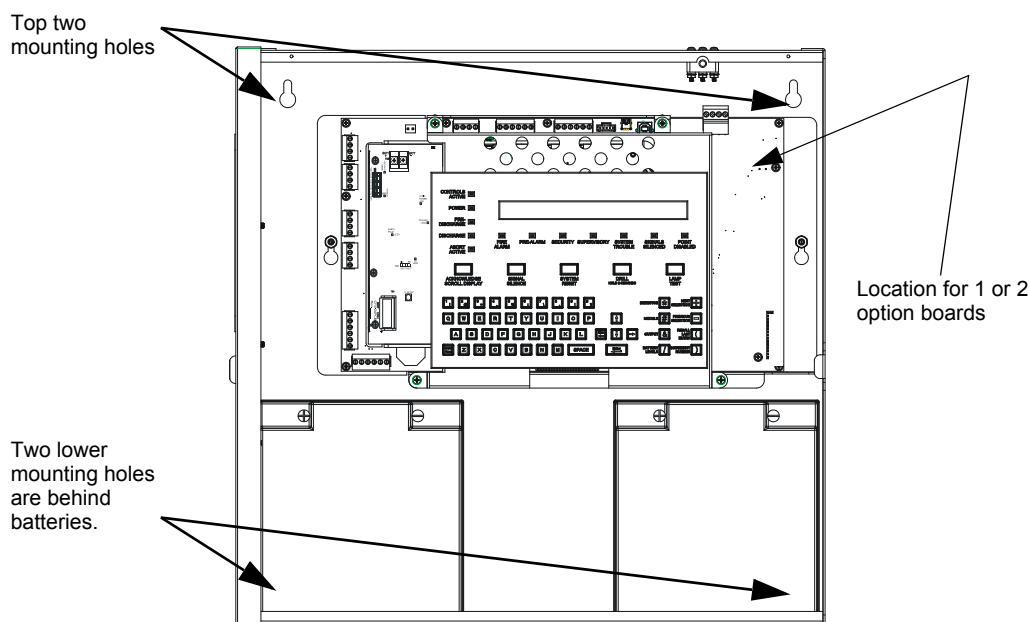

Figure 3.1 NFS-320/E/C in Cabinet
- Use the four holes in the back surface of the backbox to provide secure mounting. (See Figure 3.1 on page 18.)